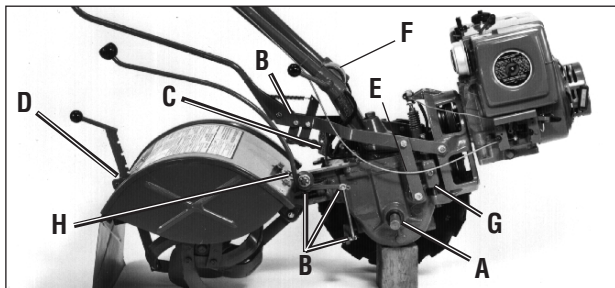

Figure 5-4: Tiller lubrication points (wheel removed for clarity).
Lubricate the numbered areas in Figures 5-4 and 5-5, as follows:
1. Oil the wheel shaft between the wheel hubs and the transmission housing (A, Figure 5-4).
2. Oil all pivoting and connecting points on the Wheels/Tines/PTO Drive Lever and the Wheel Speed Lever (B, Figure 5-4).
3. Grease the face of the belt adjustment block (C, Figure 5-4).
4. Oil the Depth Regulator Lever, including the spring in the mounting bracket (D, Figure 5-4).
5. Oil the full length of the throttle cable casing (E, Figure 5-4).
6. Oil threads on Handlebar Height Adjustment Lever (F, Figure 5-4).
7. Grease left- and right-side engine mounting bars at the top, the middle, and bottom (G, Figure 5-4).
8. Grease the zerk grease fitting located on the pivot point at the end of the Wheel Speed Lever (H, Figure 5-4). If Wheel Speed Lever has a grease fitting on pivot assembly, apply 2-to-3 strokes of multi-purpose grease at beginning and end of tilling season.